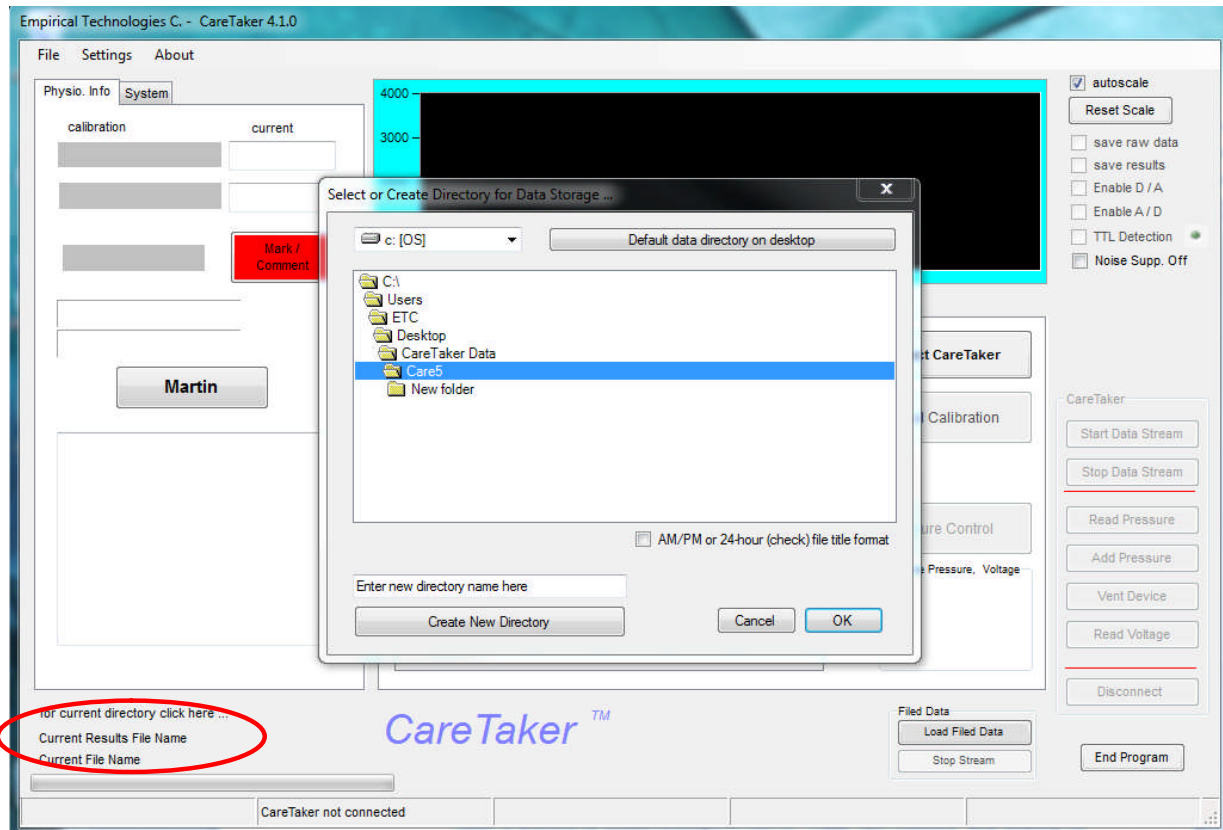

Figure 19:
The program will save the data continuously to the file whose name is displayed under the “Current File Name”. The data is collected and stored at 512 Hz (**500 Hz for the Palm unit**) if the “save raw data” (**Figure 19, red circle**) option is selected.
The file title of the raw data file is “ETC(asc)__(time_date).dat”. The time format can be selected between 12 hour AM/PM format or 24:00 hour format (see Figure 19). This file will have three columns:
- It is also possible to select or establish a directory to which the program will save all file output. Click “File” on the top menu and then “Save data to directory...”. At this point the screen shown in **Figure 19** appears.
To check the status of the current data storage directory, click on “for Current Directory click HERE” (red circle in **Figure 19**). The entire directory path name will appear in the tool-tip of the cursor.
The program will save the results continuously to the file whose name is displayed under the “Current Results File Name”. (**Figure 19, below red circle**). This file will save the results of each detected heartbeat per row of the file.